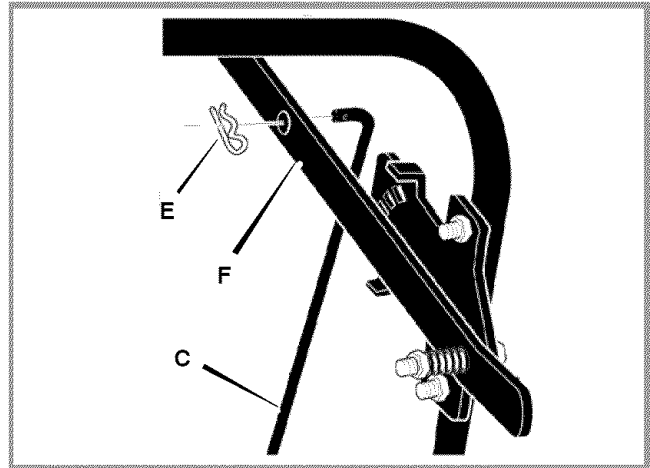

Figure 4: Upper Control Rod Assembly
- 5 Insert the other end of the control rod, from RIGHT to LEFT, through the hole in the depth control lever (F) and fasten with the hair pin (E). See Figure 4.